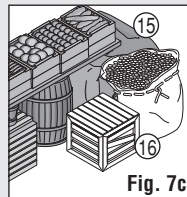

Fig. 7c
- Glue Sack and Crate (16) to 3 Sacks (15) (Fig. 7c).